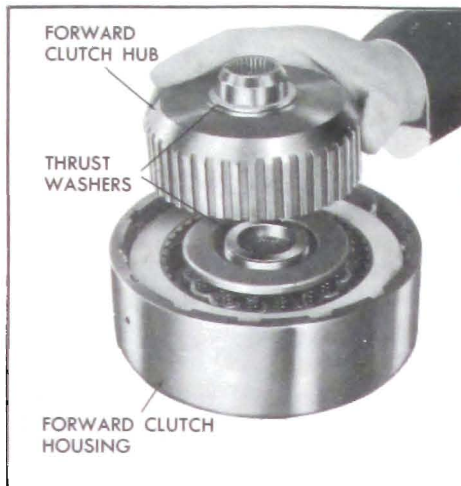

Figure 5-631
9. Place forward clutch hub into forward clutch housing and clutch plates. See Figure 5-631.